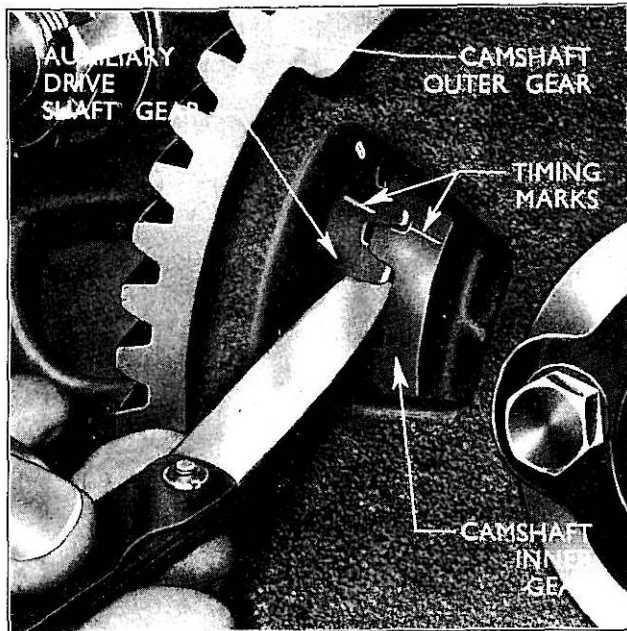

Fig. 68
- 2 Check the backlash between all gears using a suitable feeler gauge. This should be between 0.003 in. and 0.004 in. (See Fig. 68.)